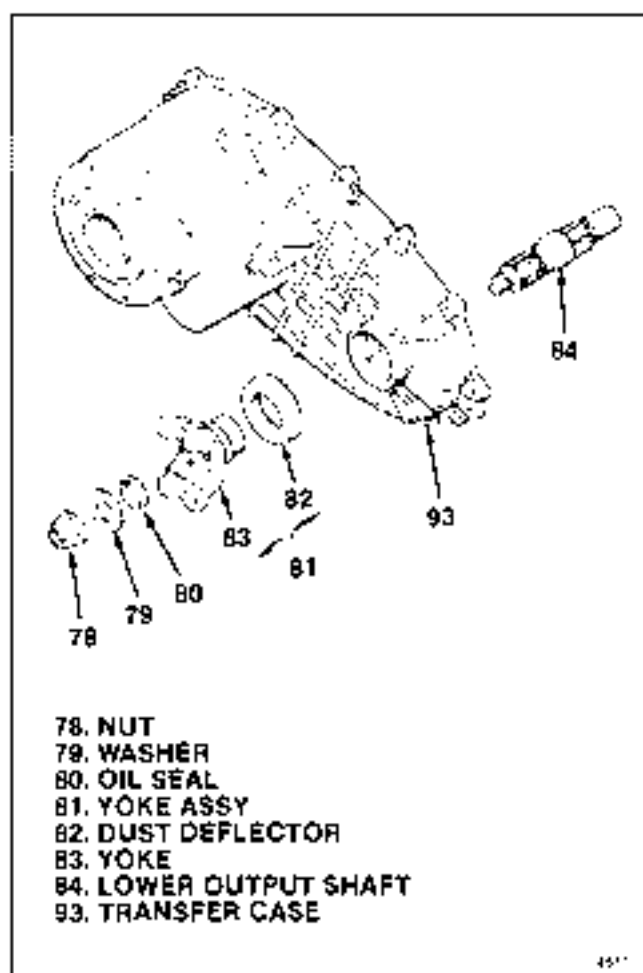

Figure 5-4. Lower Output Shaft and Yoke
**5-6. INSTALLING LOWER OUTPUT SHAFT AND YOKE.** To assembly as completed thus far (85 through 93), install parts as follows (see figure 5-4).
- If removed, press dust deflector (82) onto yoke (83) to seat against yoke shoulder.
- Lubricate oil seal (80) and install over threads of lower output shaft (84) with sealing head on oil seal facing out. Seat oil seal on shaft shoulder.
- Insert lower output shaft (84) through ball bearing in transfer case (93), hold in position and install yoke assembly (81). Attach with washer (79) and nut (78). Tighten nut just enough to hold shaft securely but do not torque at this time.